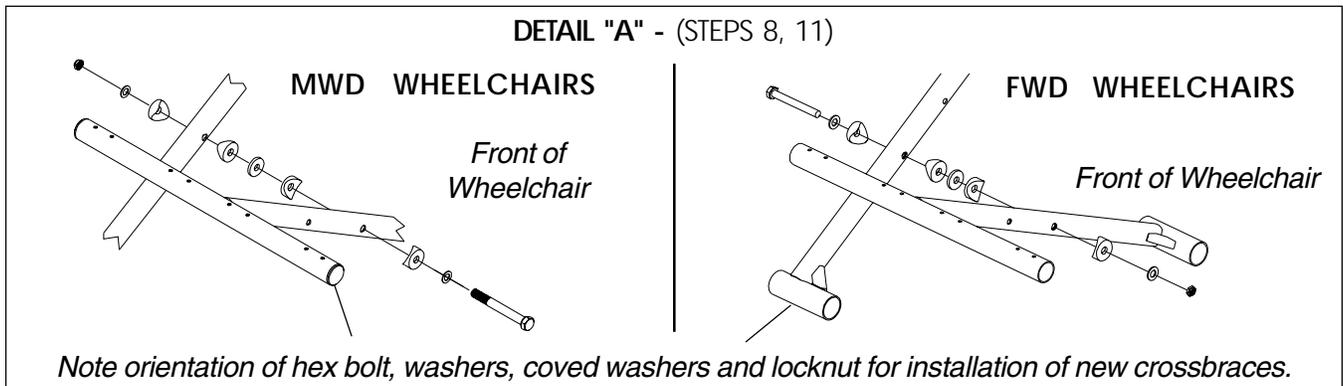

FIGURE 1 - ADJUSTING SEAT WIDTH - INTEGRATED SLING SEAT S
7. Remove the hex bolts, washers and locknuts that secure the bottom of the two (2) crossbraces to the wheelchair frame.
8. Remove the hex bolt, coved spacers, washers and locknut that secure the two (2) existing crossbraces together.
9. Remove the four (4) pivot tube plug pins from the bottom of the two (2) existing crossbraces.
10. Install the four (4) pivot tube plug pins into the bottom of the two (2) new crossbraces.
11. Assemble the two (2) new crossbraces together. Refer to DETAIL "A" in FIGURE 1 for hardware orientation.
*NOTE: FWD wheelchairs only - There are right and left crossbraces. Refer to DETAIL "B" in FIGURE 1.*
12. Reinstall the hex bolts, washers and locknuts that secure the bottom of the two (2) new crossbraces to the wheelchair frame and tighten securely.
17. Change the width of the battery tray. Refer to one (1) of the following: